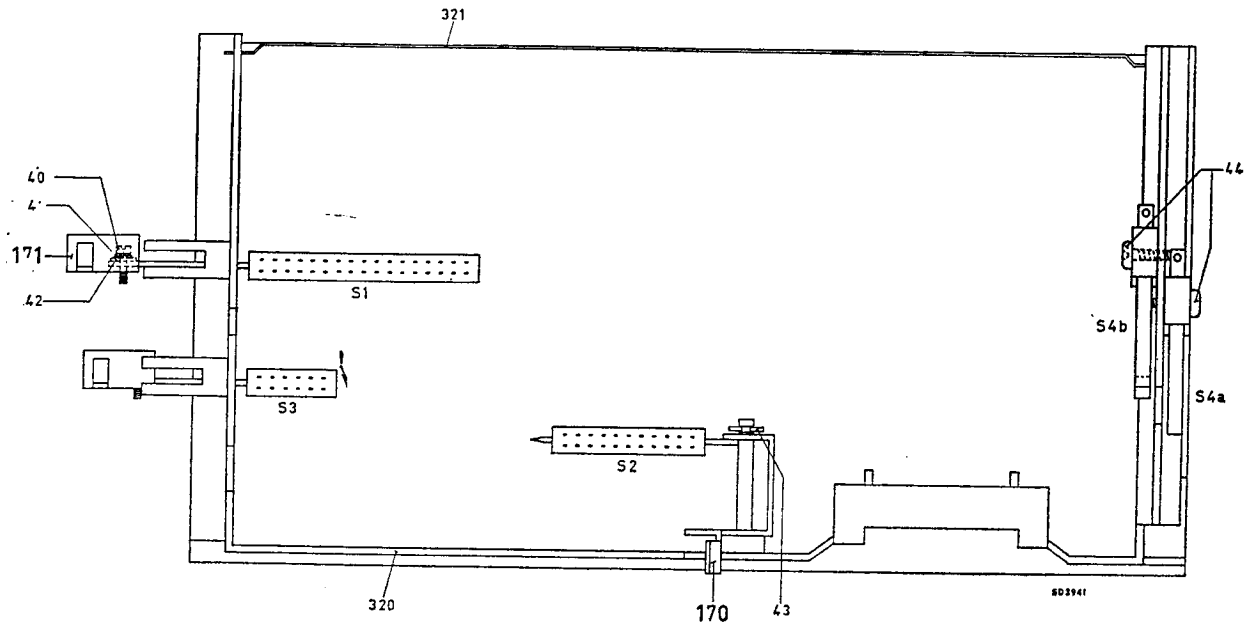

Fig. 3 Switch Location
- Track selector switch S2 (See Fig. 3). If necessary, bend S2 operating arm at A so that in track position '2-3', the switch slider is positioned as shown in Fig. 14.
- Play/stop switch S3 (See Fig. 3). Depress the Record key and, if necessary, bend the tags of S3 operating arm 95 so that the switch slider is in the position shown in Fig. 15.
- Record/playback switch S1 (See Fig. 3). Set the recorder to the 'Stop' position and, if necessary adjust the tags on S1 operating arm 96 so that the switch slider is in the position shown in Fig. 15.